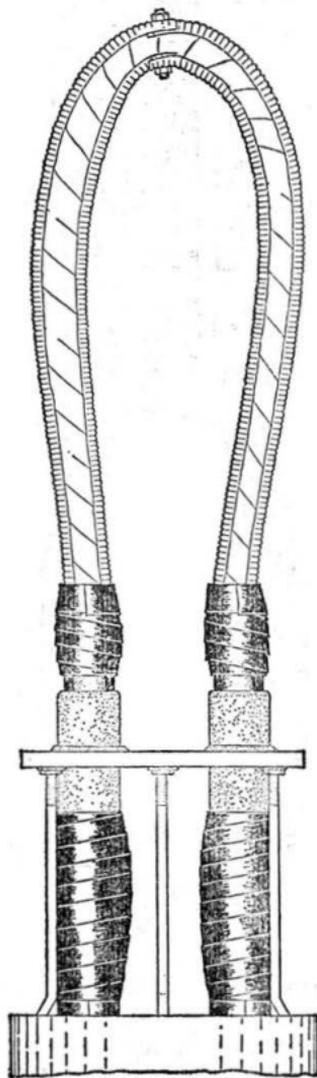

Fig. 4
2.06 Wrap the completed splice in the usual manner. On non-gastight closures in PIC cable one half-lapped layer of B Polyethylene Tape should be used. On gastight closures in PIC cables the metal shield should follow the loop of the cable and be made continuous across the opening, as shown in Fig. 4.